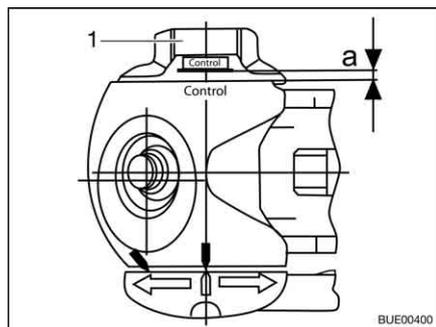

Fig. 206 Friction control
- Turn the handwheel (Fig. 206,1), until it can be heard and felt that the torque limiting mechanism grates. Direction of rotation: In a clockwise direction.
- Distance $a > 0$ (Fig. 206): Wear within the permissible range.